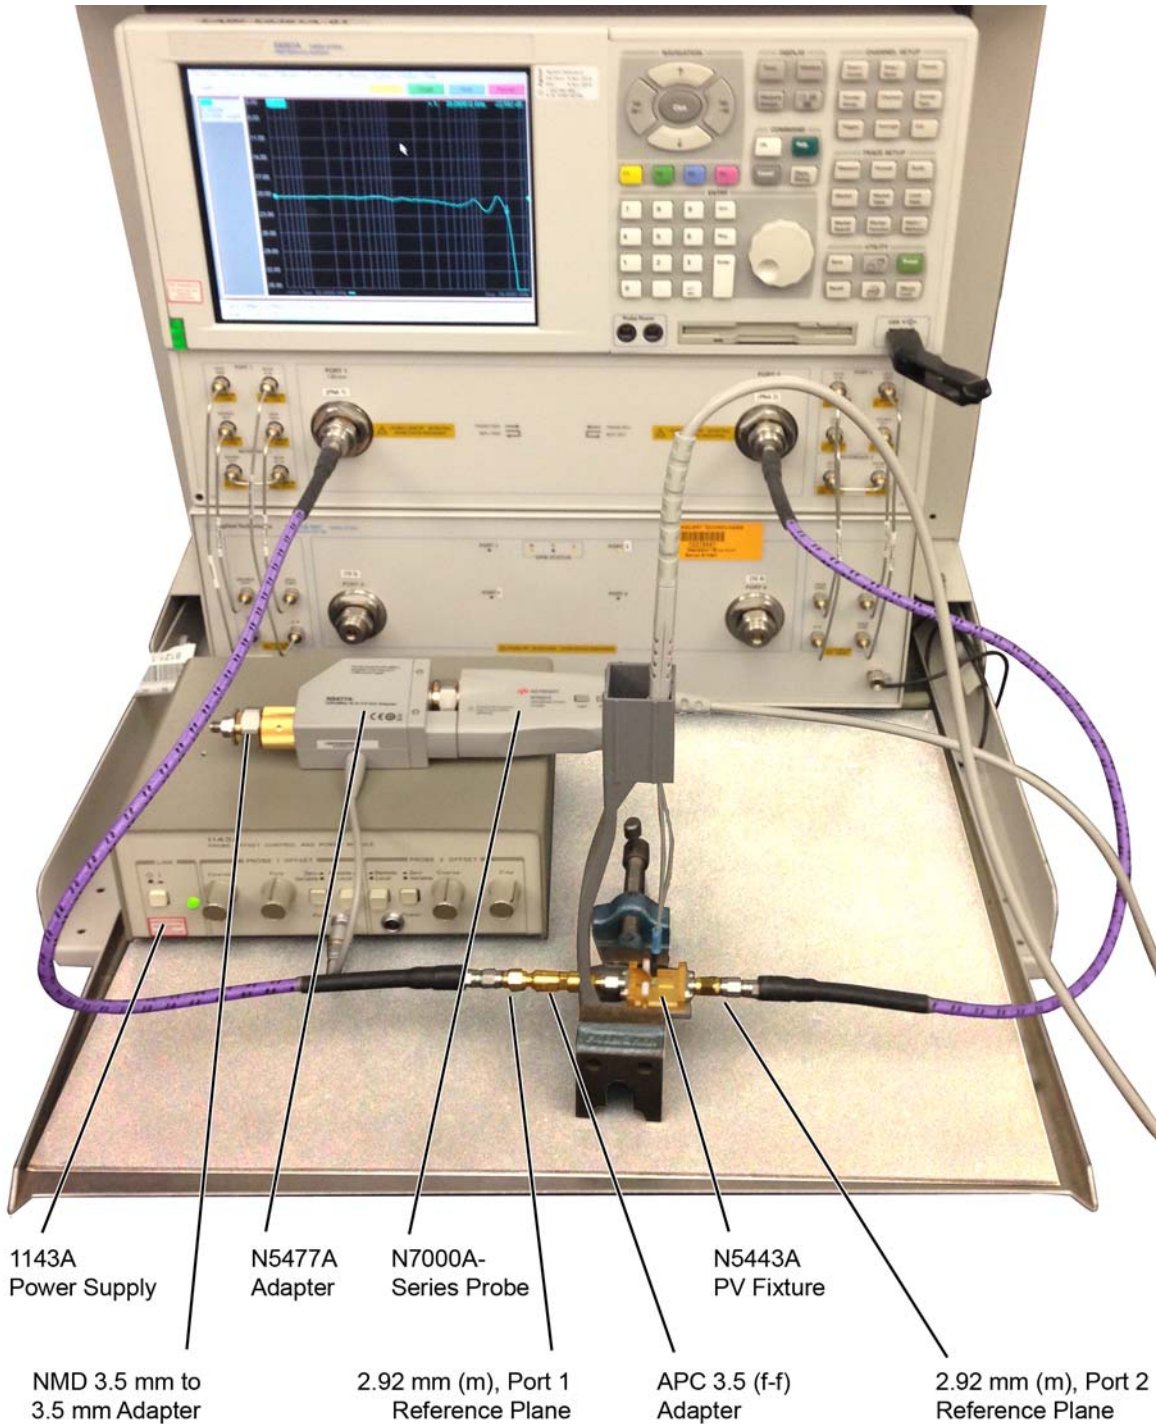

Figure 99 Test Setup for Measuring V_{in} of Probe
- 3 Connect the APC 3.5 (f-f) adapter, provided with the N5443A PV fixture, to the N5443A, as shown in **Figure 99**. Use a small bench vise to steady the N5443A PV fixture on the test surface.